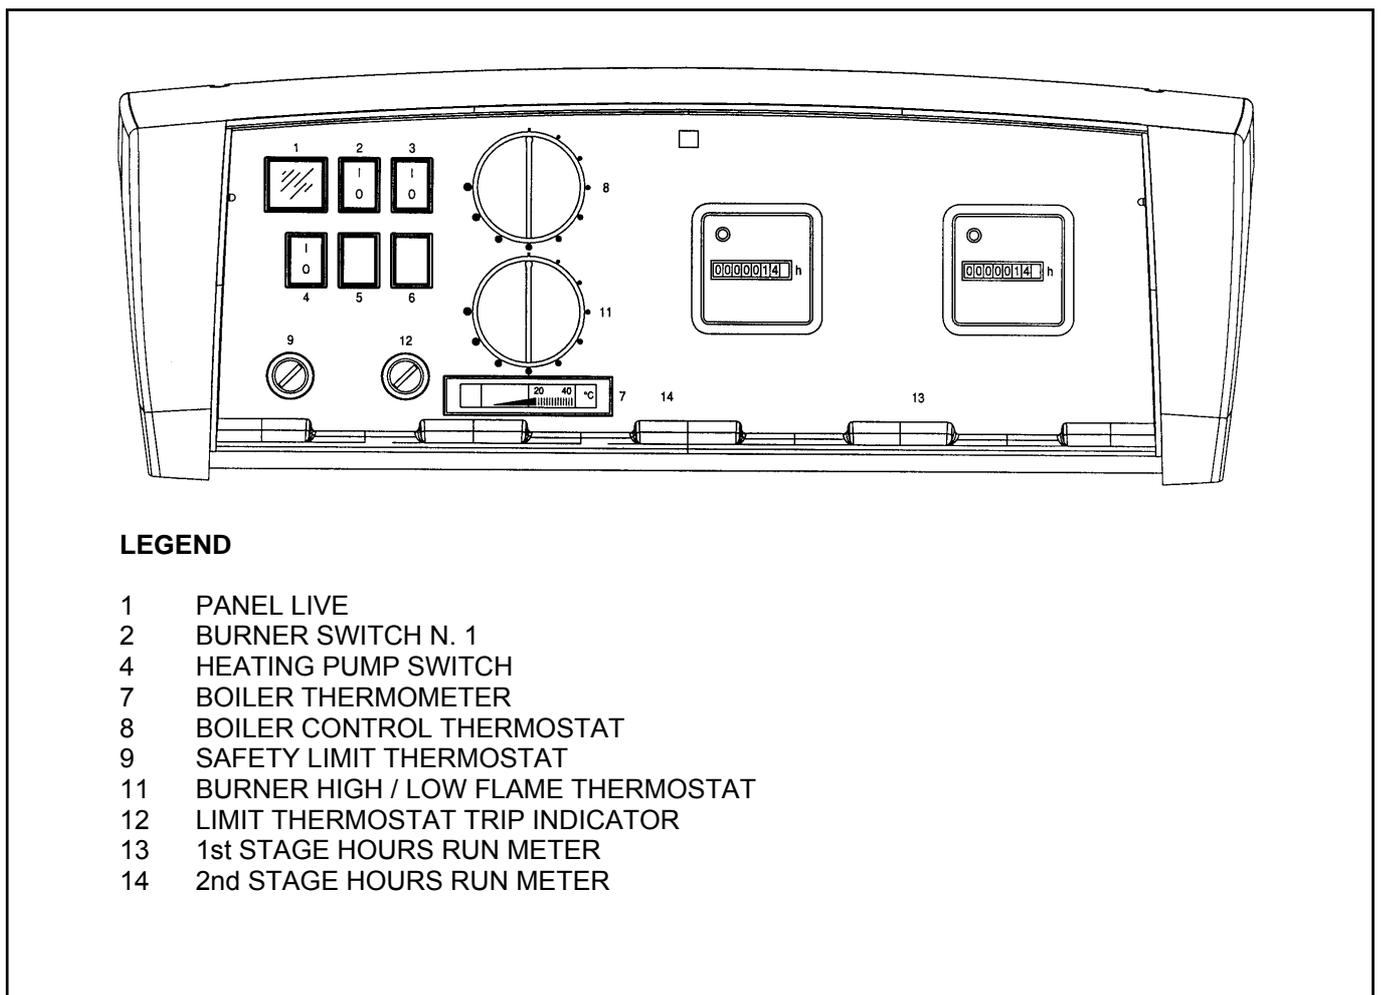

Figure 10.4.1 - Ansty Control Panel
10.4 Control Panel (Refer to Fig. 10.4.1 & 10.4.2)
The Control Panel supplied with the boiler is made from self-extinguishing plastic and houses the regulation and safety instruments, see Figure 10.4.1